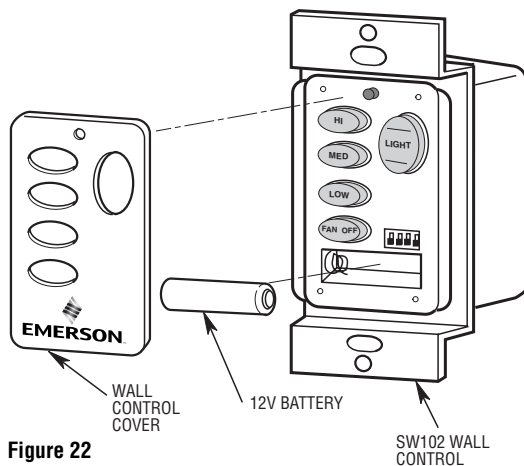

Figure 22
1. Install the 12V battery (supplied) into the wall control (Figure 22).
2. The SW102 wall control is supplied with a white, ivory or almond color cover. Choose the style that best suits your needs and snap the cover onto the wall control (Figure 22).